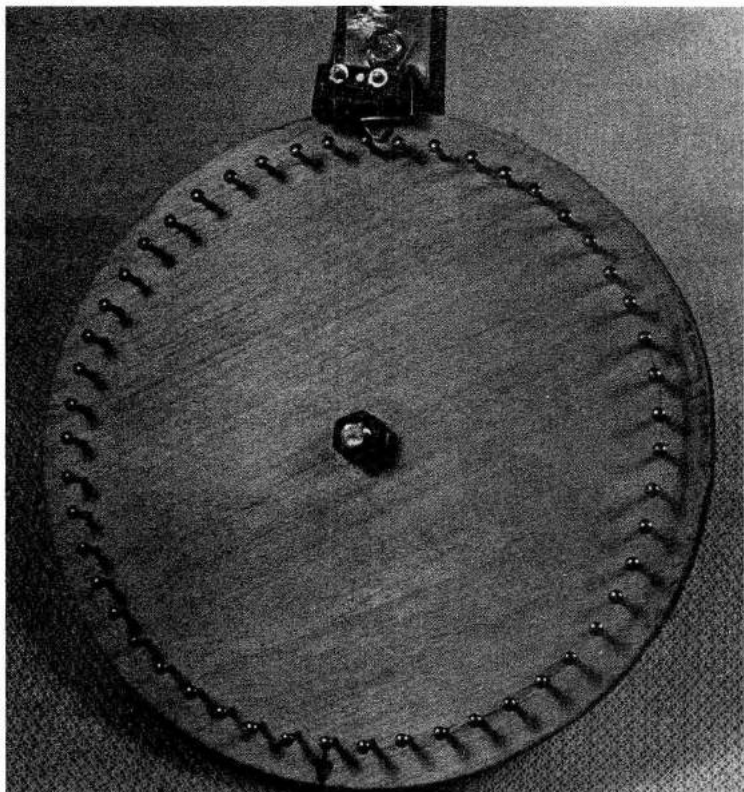
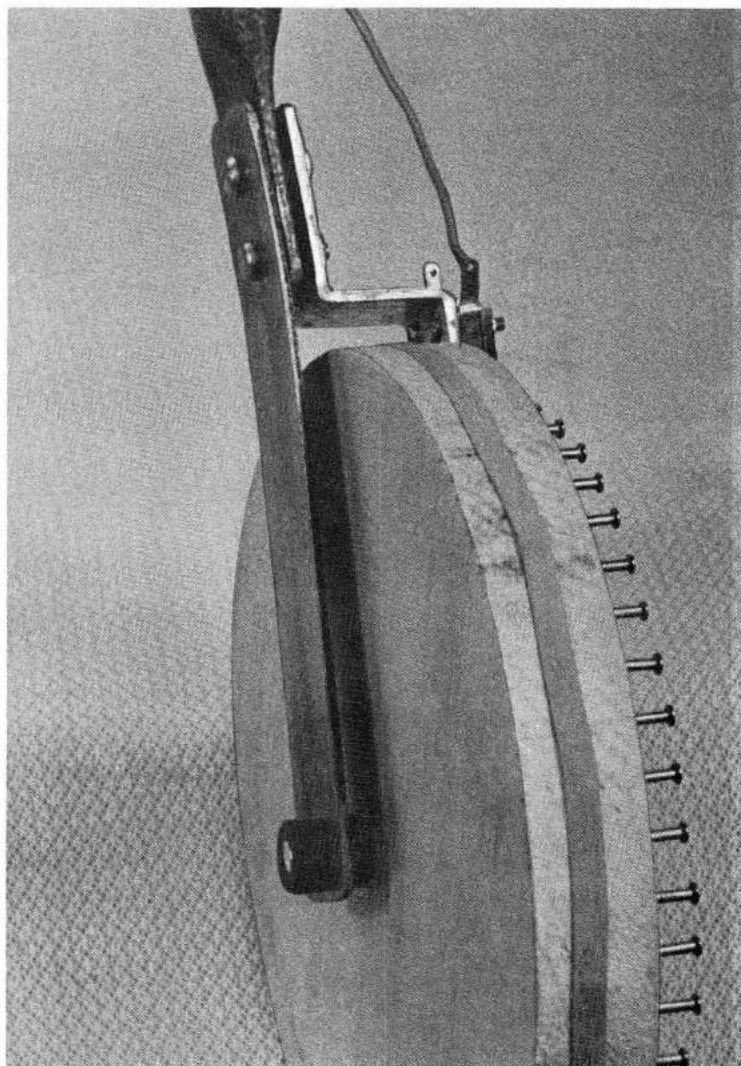

Fig. 19-7. View of wheel showing placement of brass brads and the location of the microswitch.
Fig. 19-8. View of the microswitch mounting brackets. The "tire" is a large rubber band.
Figure 19-7 shows the complete wheel mounted to the handle, with the microswitch in place. Figure 19-8 shows the detail of the wheel mounting bracket and the microswitch bracket. A large rubber band is used as a tire for the wheel.
8. Consult Figs. 19-8 and 19-9 for the design of these brackets.